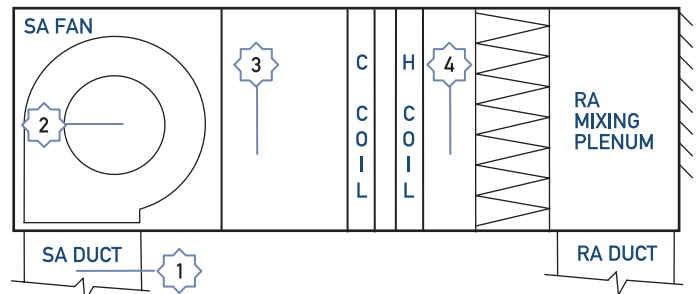

FIGURE 1 - SUGGESTED MOUNTING LOCATIONS IN TYPICAL AHU
- 3) The units can either be installed inside an air handling unit or in the supply air ductwork. See figure 1 for acceptable mounting locations.